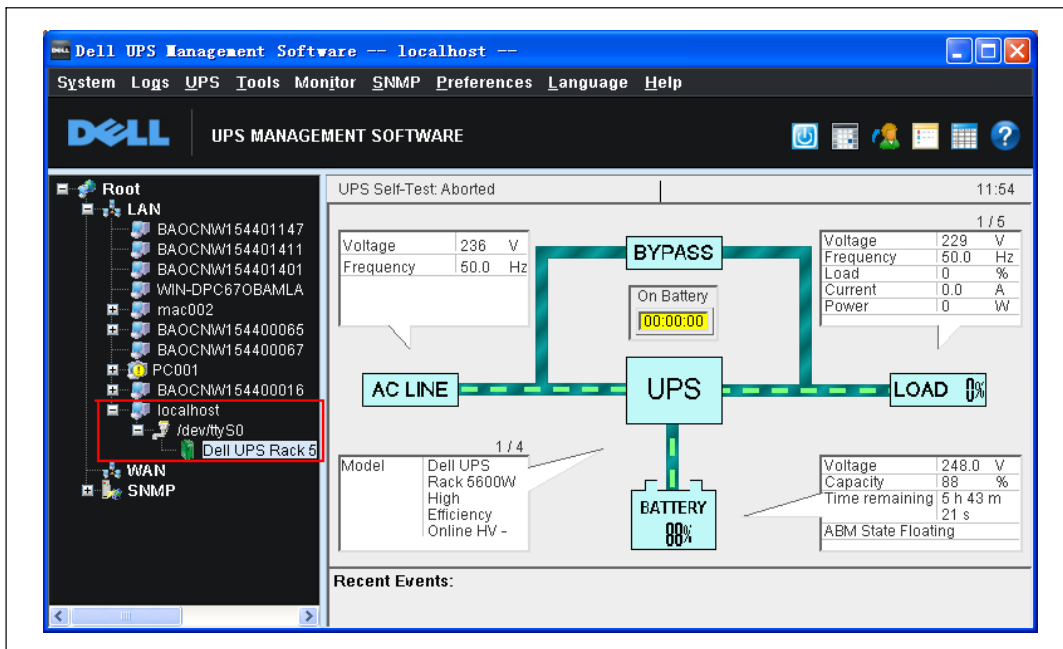

Figure 112. UPS Connected to the VMware Server
- Acting as the Administrator, select **Auto Search Device** from the **System** menu. The UPS connected with VMware Server appears in the LAN tree view (see Figure 112).